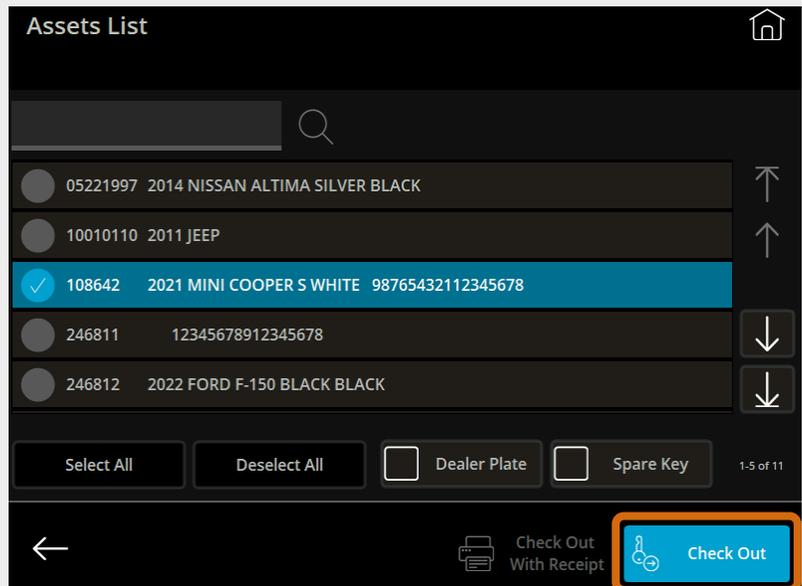

Fig. 51 – Assets List screen with Check Out button indicated
3. Press **Check Out**, as shown in Fig. 51.